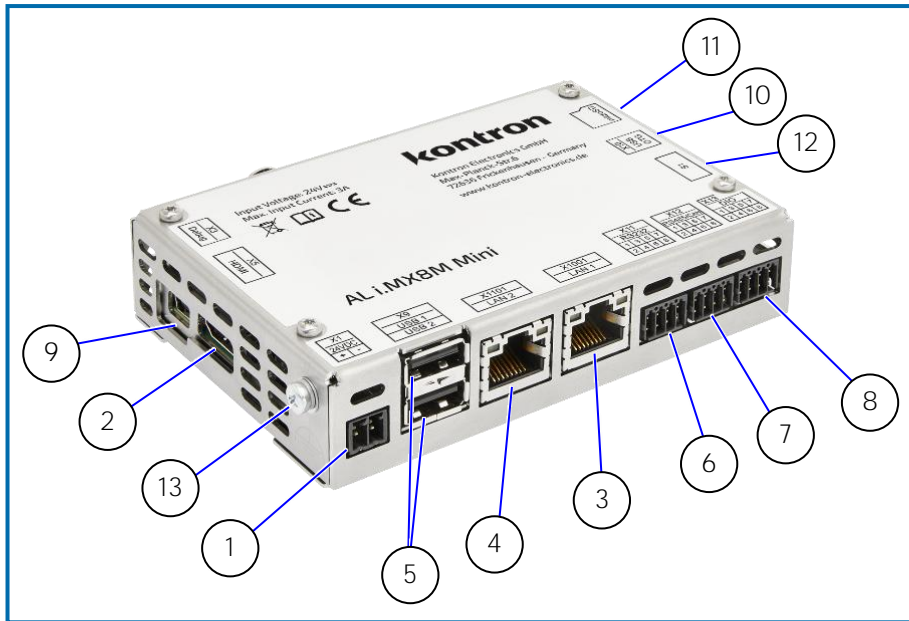

Figure 9: Top Side View
There is one 2-pin power connector supporting an input DC voltage range of 24 V DC  $\pm 20\%$ , see Figure 9 (pos. 1). The mating connector required to connect the power connector to a DC main power source is supplied with the AL i.MX8M Mini. For information on how to connect the supplied mating connector to the input power source, refer to Chapter 7.2: Wiring the DC Mating Power Connector.
There is one HDMI interface (1920 x 1080 pixel resolution), for video solutions, see Figure 9 (pos. 2). The HDMI interface is not designed for connecting cables longer than 3 m.
There are two LAN ports, see Figure 9 (pos. 3 and 4). In the software these are referred to as ETH0 and ETH1. The assignment between LAN2/LAN1 and ETH0/ETH1 depends on the software. In order to achieve the specified performance of the Ethernet port, shielded category 5 twisted pair cables must be used with 10/100 Mbit/s and Category 5E, 6 or 6E with 1 Gbit/s LAN networks. For the pin assignment of the RJ45 Ethernet connectors, refer to Chapter 10.2.3: Ethernet RJ45 Connector (X1001)
There are two USB 2.0 ports allowing for the connection of USB 2.0 compatible devices, see Figure 9 (pos. 5). The USB ports are designed for connecting short cables only.
There is a RS232 interface (RX/TX) supporting RTS/CTS, see Figure 9 (pos. 6). The RS232 interface is not designed for connecting cables longer than 3 m.
The RS485 interface in Figure 9 (pos. 7) contains also the wiring for CAN. The RS485 interface is not designed for connecting cables longer than 30 m.
The CAN interface in Figure 9 (pos. 7) also contains the wiring for RS485. The CAN address switches 1...4 are connected directly to GPIO pins and can therefore also be used for other purposes. The CAN interface is not designed for connecting cables longer than 30 m.
There is a four port DIO interface available on the front panel of the AL i.MX8M Mini, see Figure 9 (pos. 8).
There is a Micro-USB OTG interface that can act as USB2.0 compatible device or host, see Figure 9 (pos. 10).
There is a card slot to connect a microSD card for extra memory, see Figure 9 (pos. 11).
There is a functional earth self-clinching nut on the side of the housing connected to the electronic ground inside the system and to the mounting clamp on the backside of the housing, see Figure 9 (pos. 13).